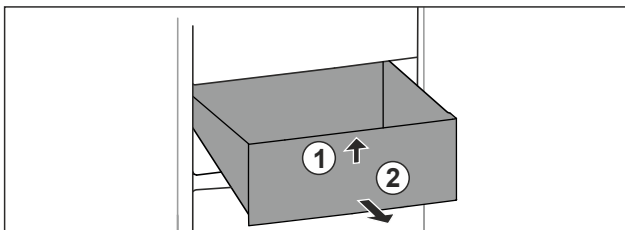

Fig. 136
- ▶ Lift up drawer at the front. Fig. 136 (1).
- ▶ Remove drawer to the front. Fig. 136 (2).